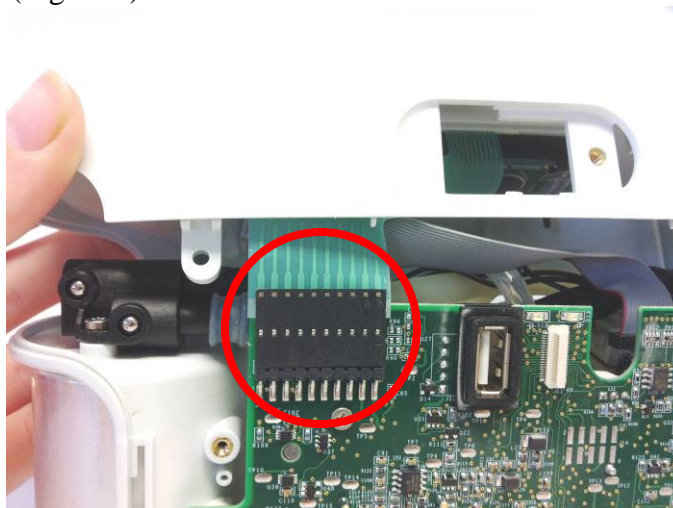

Figure 7: Unplug LCD cable from motherboard
7. Gently pull upward on the user interface panel to lift it about a centimeter off the device, being careful not to pull on the cables that are connected to the user interface panel. With the UIP cable connector exposed on the motherboard, gently unplug the UIP cable from the motherboard (Figure 7).
2. Plug the UIP cable into the motherboard (Figure 7). Double check that the cables are fully seated to ensure a complete connection.